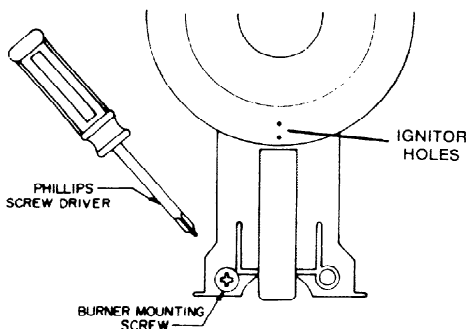

FIGURE 1
1. To clean the burners, remove the burner grates and the maintop. Using a phillips head screwdriver, remove the four mounting screws which retain the burners to the burner supports (see Figure 1). Lift the burners up and pull towards the rear of the range.
3. If poor top burner ignition is experienced, it may be due to blocked ignitor holes. When cleaning the burners, pay particular attention to cleaning the small ignitor holes adjacent to the flash tubes (see Figure 1). These can be cleaned by inserting a straight pin or opened paper clip into the hole. **DO NOT USE A WOODEN PICK TO CLEAN THE HOLES.** Remember, do not change the size or shape of this part, or ignition may be affected.